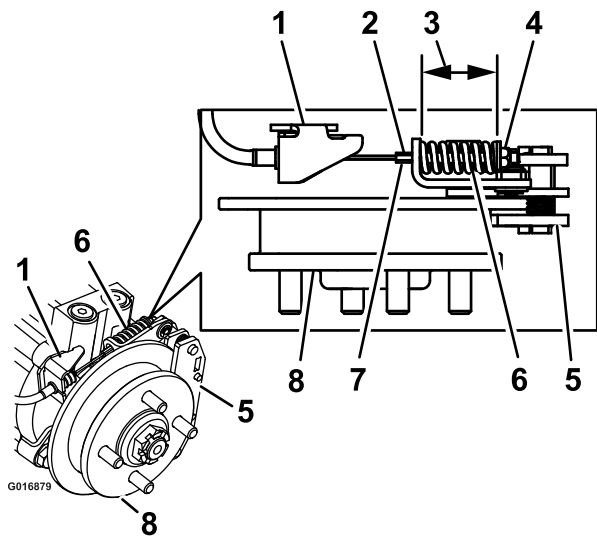

Figure 68
9. Hold the threaded rod end with a tool and adjust the locknut until the spring length is between 3.8 and 4.0 cm (1-1/2 and 1-9/16 inches); refer to Figure 68. Do not allow the cable to turn when the nuts are being loosened.